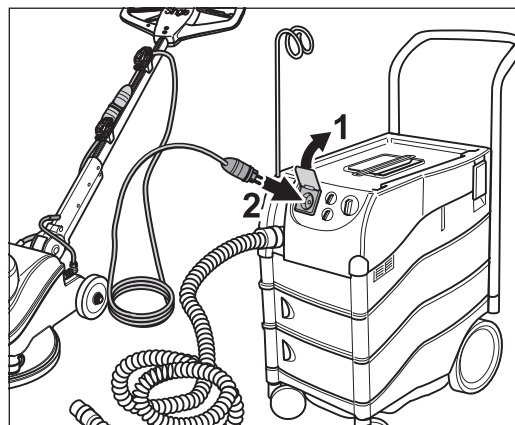

Fig. 23 Push the extension cable plug into the socket on the vacuum cleaner.
- 2 Plug the extension cable plug into the socket on the vacuum cleaner (Fig. 23).